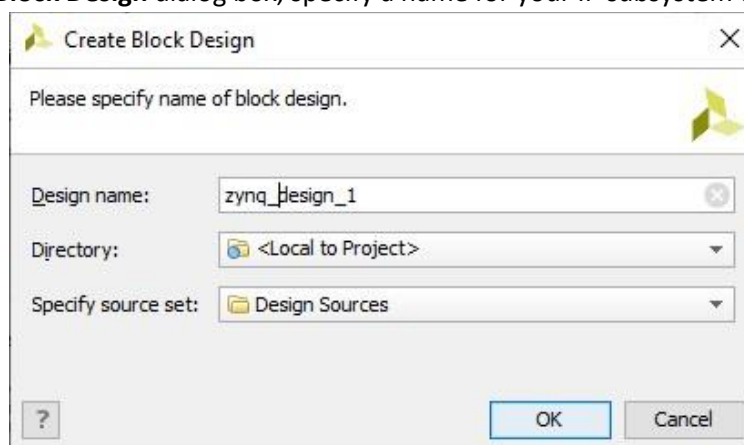

Figure 4: Create Block Design dialog box.
2. In the **Create Block Design** dialog box, specify a name for your IP subsystem design (Figure 4).